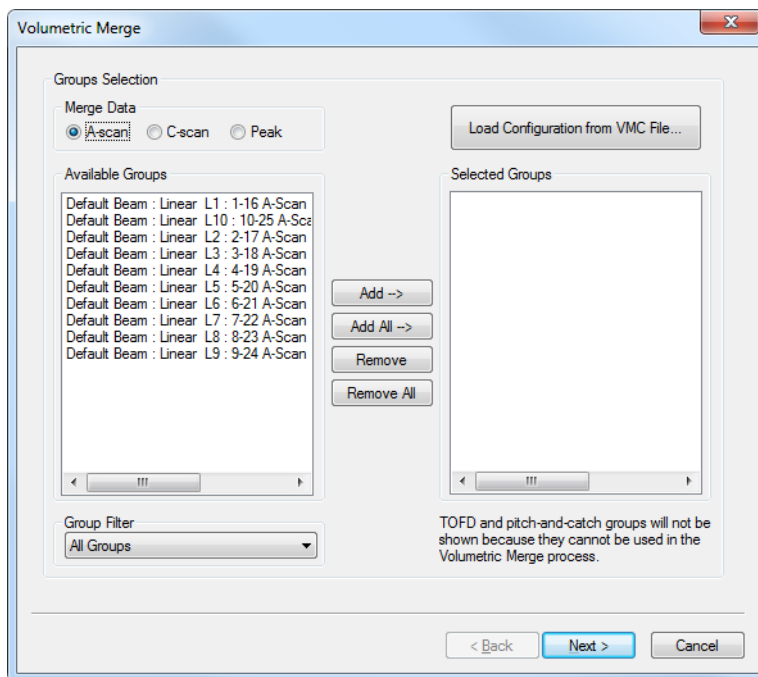

Figure 7-4 The Groups Selection group box
3. Under **Groups Selection** (see Figure 7-4 on page 337), select which beams or groups to merge: